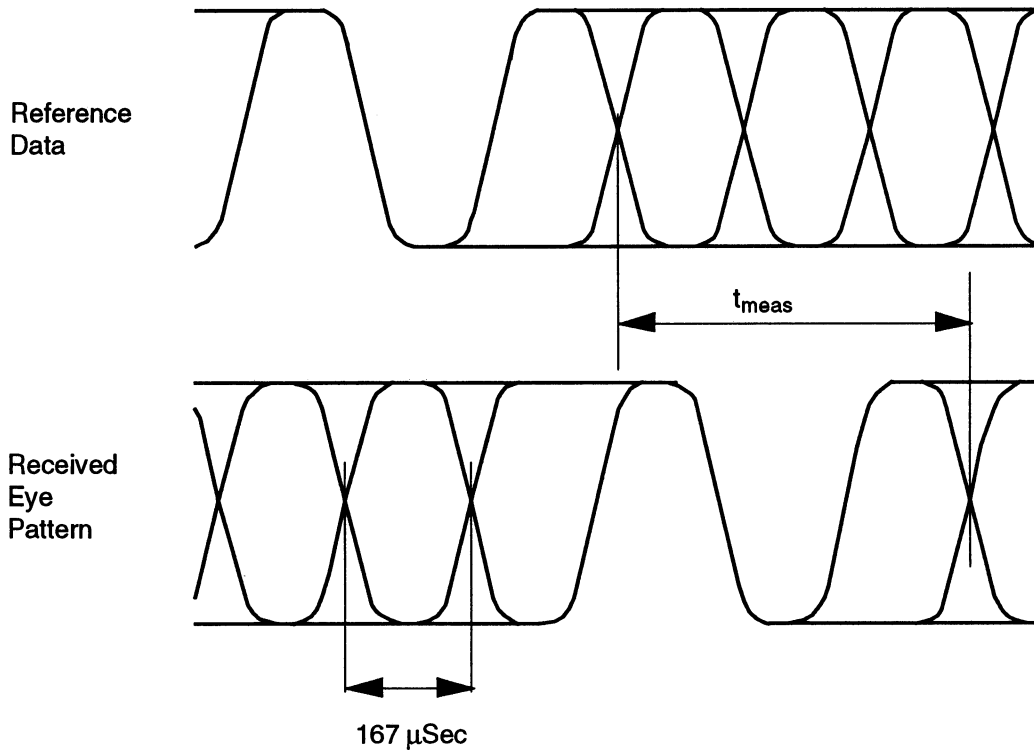

Figure 39. Four-Level Time Delay Measurement #1
- Step 29. Set the scope to trigger on the negative edge of channel 1 (use Normal Trigger, Chop Mode) to display a 6 ksymbols/sec filtered random data, or eye, pattern (Figure 39).
- Step 32. Select the scope timebase so the trigger of the reference data and the delayed trigger in the received eye pattern may be observed on the scope simultaneously. This will be approximately 200 μ s/div (see Figure 39).
- Step 33. Measure (approximately) the time delay between the two eye patterns (see Figure 39).
Step 42. Set the scope to trigger on the negative edge of channel 1 to display a 6 ksymbols/sec filtered random data, or eye, pattern (Figure 39) as follows:
- Step 44. Connect the discriminator output from the consolette to channel 2 of the scope. The optimization consolette should be receiving a two-level 6 ksymbols/sec eye pattern. See Figure 39.
- f. Select the scope timebase so the trigger of the reference data and the delayed trigger in the received eye pattern may be observed on the scope simultaneously. This will be approximately 200 $\mu\text{s}/\text{div}$ (see Figure 39).